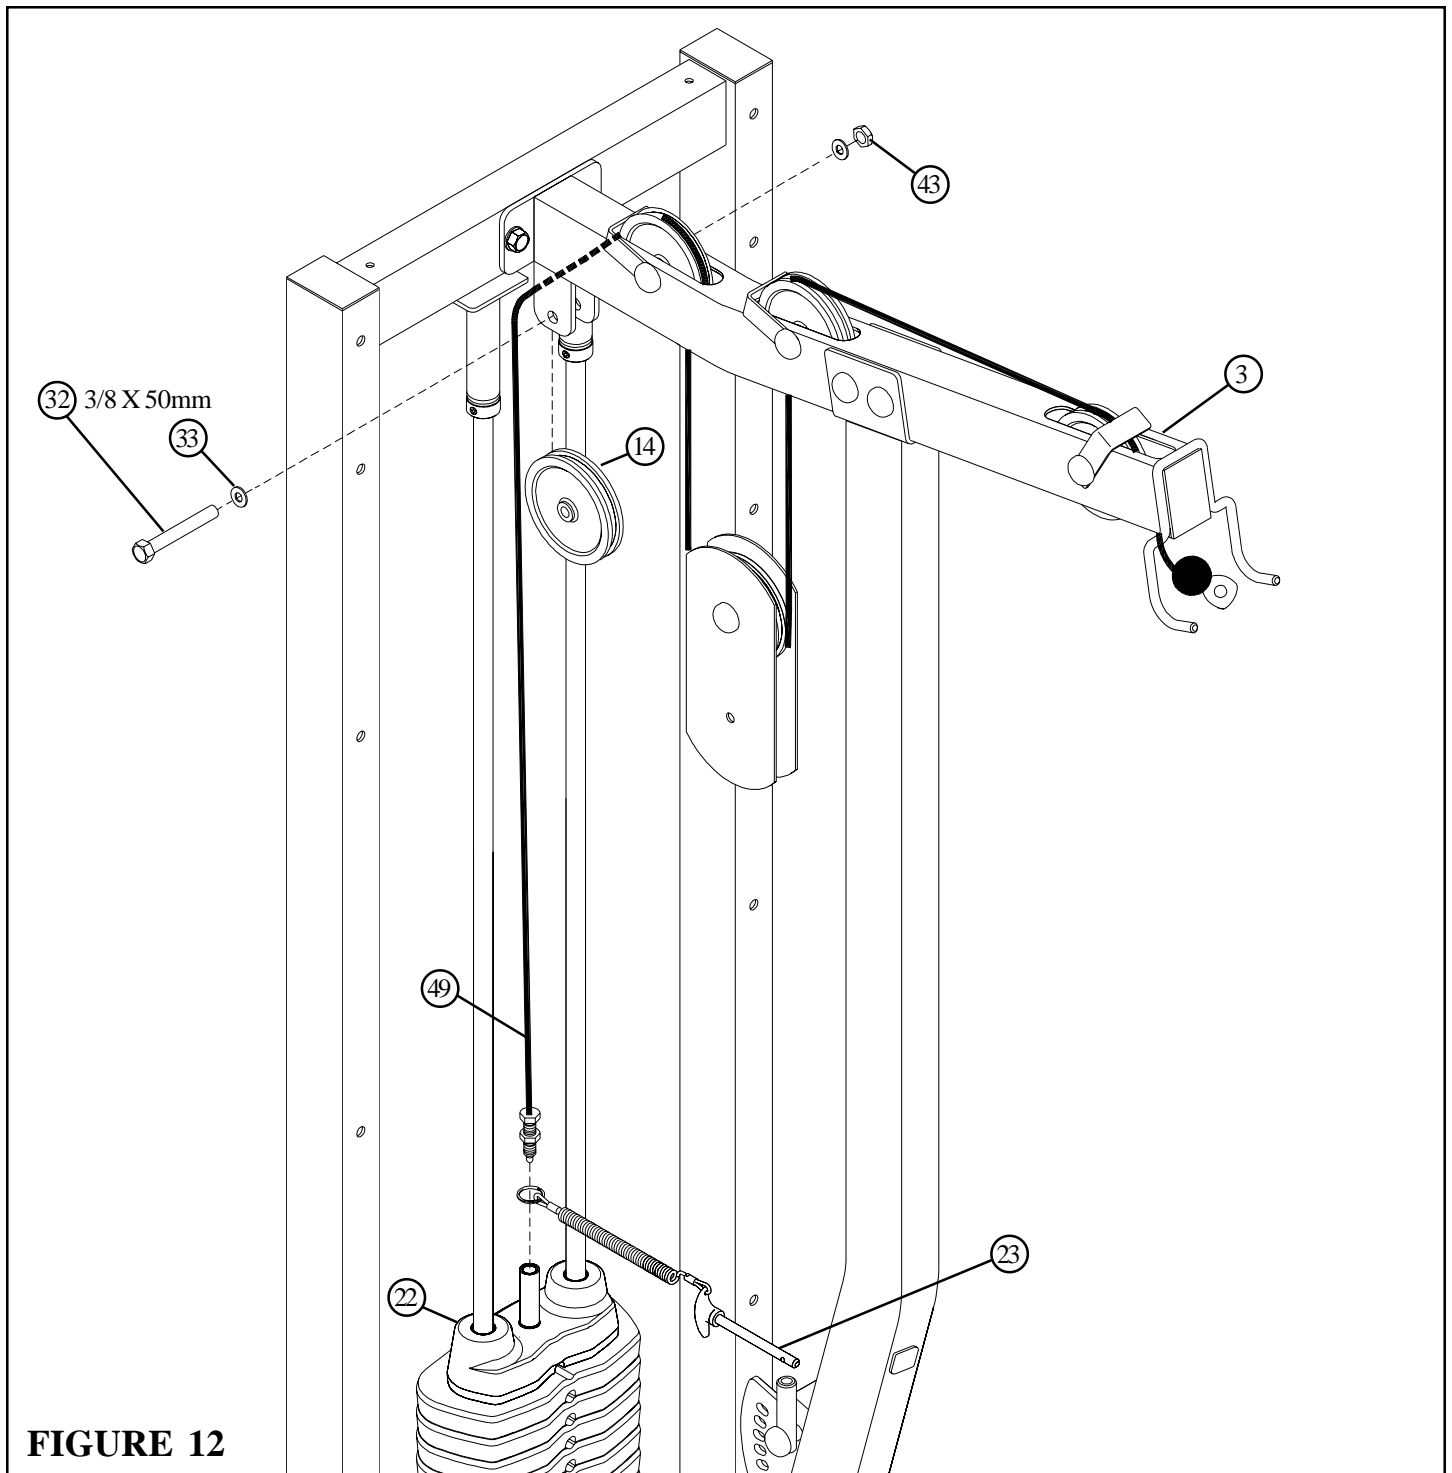

FIGURE 12
- Route the LAT CABLE (49) around one 4-1/2" PULLEY (14) and **SECURELY** assemble the PULLEY to the LAT/LOW BOOM (3) using one 3/8 X 50mm BOLT (32), two 3/8" FLAT WASHERS (33) and one 3/8" LOW HEIGHT LOCK NUT (43) as shown in FIGURE 12.
- Slide one WEIGHT STACK PIN (23) over the stem on the HEAD PLATE (22) as shown in FIGURE 12.
- **LOOSELY** thread end of the LAT CABLE (49) into the end of the stem on the HEAD PLATE (22). See FIGURE 12. (**NOTE: Cable adjustment will be made in a later step.**)